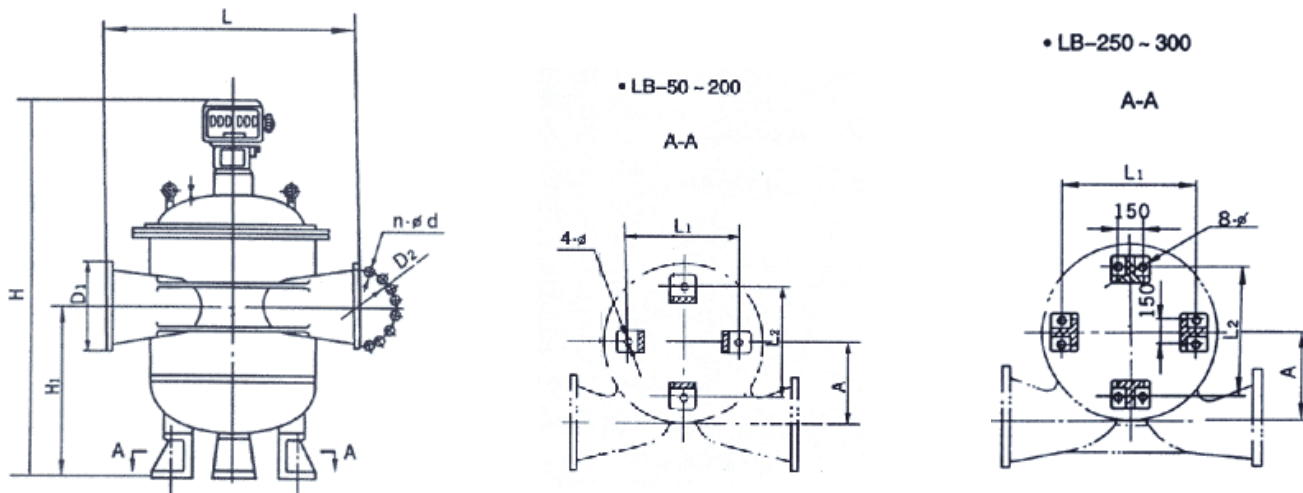

Fig. 3
1) Flow Meter Dimensions, Installation Reference and Flange specifications are as shown in Fig.3 and Table 2; for Pipeline Flange, please see Standard listed in Paragraph 2 of this section.